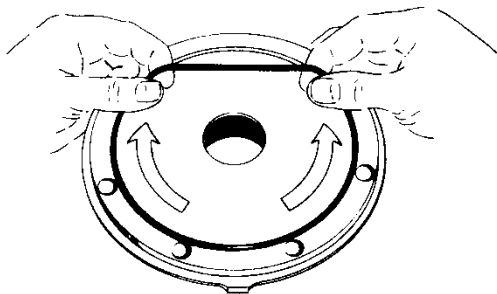

Figure 8 – Head O-Ring Installation
2. Apply a small amount of quality O-ring lubricant in the head recess. With new O-rings installed, push the mechanical seal assembly (153) into the recess of the head with the seal jacket drive tangs inward. The pin in the seal stationary seat **MUST** be between the lugs in the back of the head recess.
3. Apply a small amount of O-ring lubricant to the O-ring groove on the inside face of the head to facilitate installation. Install a new head O-ring (72) in the groove by laying the O-ring flat and starting in on one side of the groove, stretching ahead with the fingers, as shown in Figure 8.